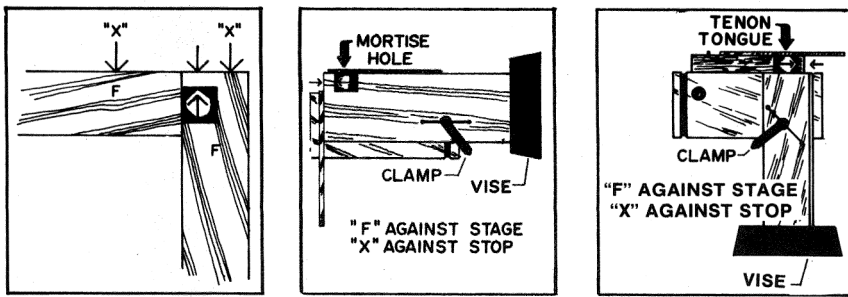

Fig. 4
1. ALWAYS PLACE THE "SHOW SIDE" OF EACH WORKPIECE AGAINST THE STAGE. To avoid confusion, it is suggested the "show side" of each workpiece be penciled "F" or "Face" (See Fig. 4).
2. IF A TENON (OR MORTISE) IS PRODUCED BY POSITIONING THE WORKPIECE AGAINST THE STOP ON THE LEFT END OF THE STAGE, THEN, THE MATING MORTISE (OR TENON) IS PRODUCED BY PLACING THE WORKPIECE AGAINST THE STOP ON THE RIGHT END OF THE STAGE. Choose a surface (other than the "show side") on the mating workpieces whose alignment is critical to the finished joint. This surface on each workpiece will be positioned against the stop. To avoid confusion, it is suggested an "X" be penciled on this surface of each workpiece (see Fig. 4).